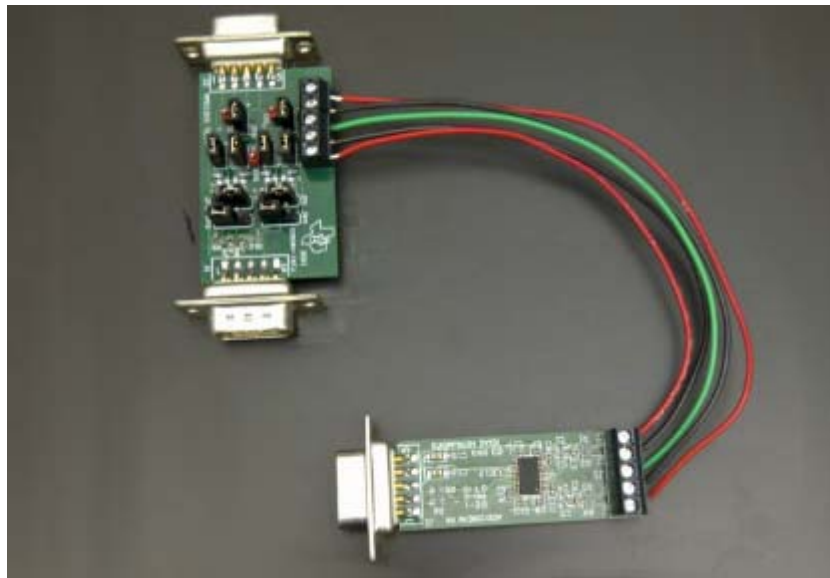

Figure 1. AMC1210MB-EVM Test Fixture
- AMC1210MB-EVM test fixture – TI supplied, see figure 1.